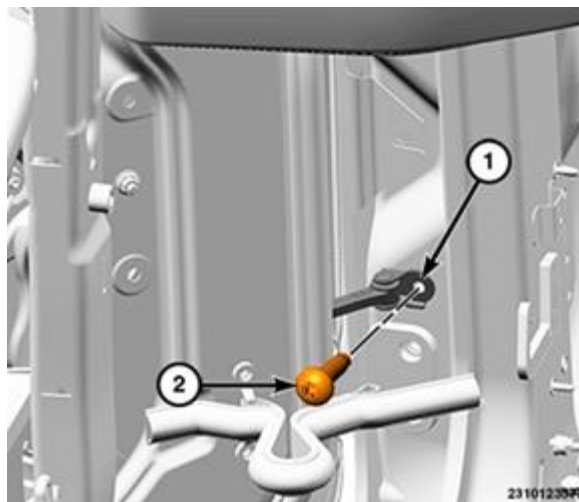

Figure 15 – Door Check Bolt
- 22. Remove the bolt (2) securing the door check (1) (Figure 15).
67. Install the door check strap bolt securing the door check and tighten to 9N·m (80 in. lbs.) (Figure 15).